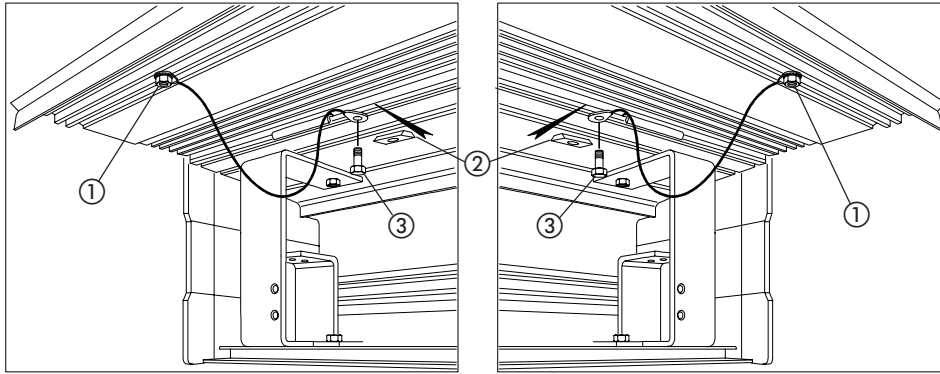

fig. 80
Using an eyelet, secure the parachute cables to the M5 stay screws previously fitted (fig. 76 refs. A and D) on the closure housing. Secure the eyelets with the supplied nut (fig. 80 ref. ①). Insert two plates in the seat of the support profile (fig. 80 ref. ②) and secure the second eyelet with the supplied screw (fig. 80 ref. ③).